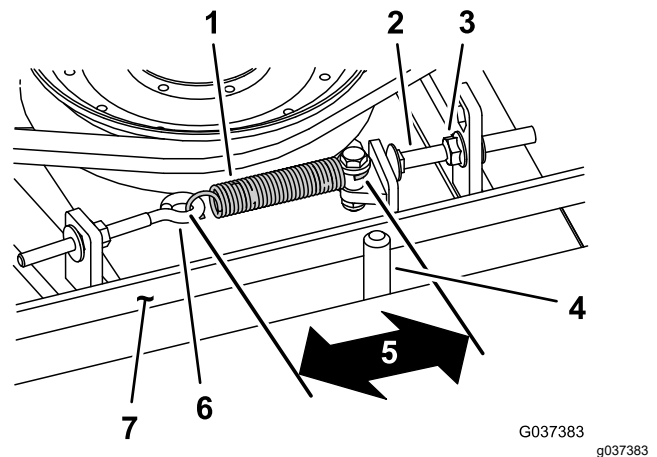

Figure 113
When properly tensioned, the inside measurement of the extension spring (hook to hook) should be approximately 8.3 to 9.5 cm (3-1/4 to 3-3/4 inches). Once the correct spring tension is attained, adjust the stop bolt (carriage bolt) until there is approximately 2 to 5 mm (0.065 to 0.185 inch) clearance between the head of the bolt and the idler arm (Figure 113).
Note: Ensure that the belt is positioned on the spring side of the belt guide (Figure 113).
- Loosen the eye bolt allowing the removal of the extension spring (Figure 113).
- Loosen the flange nut securing the stop bolt to the mounting tab and move the idler pulley away from the belt to release the belt tension (Figure 113).
- Connect the extension spring (Figure 113) to the eye bolt and tension the belt as follows: